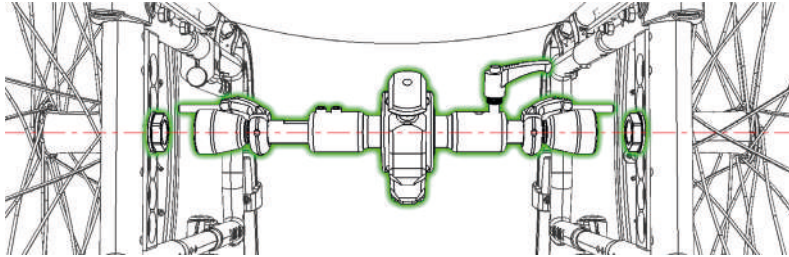

Figure 18
3. Position the Rear Linking System Kit for foldable wheelchairs, at its minimum extension, between the wheelchair's wheel axles (Figure 18).